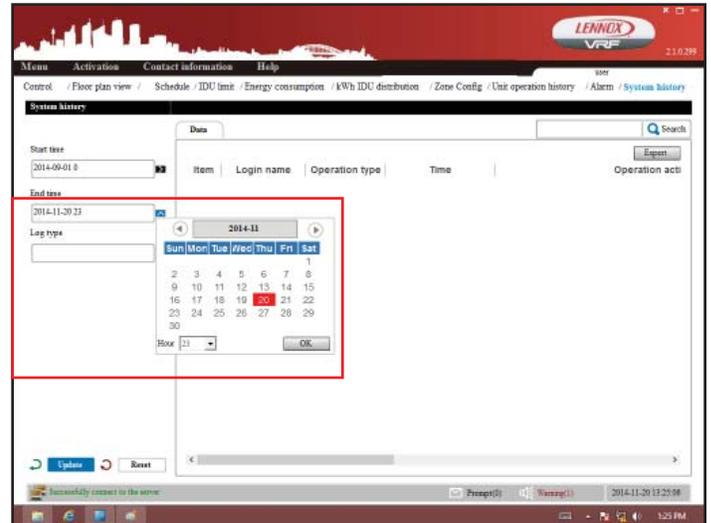

Figure 67. Select End Date
5. Tap the End time field. A calendar displays. See figure 67.